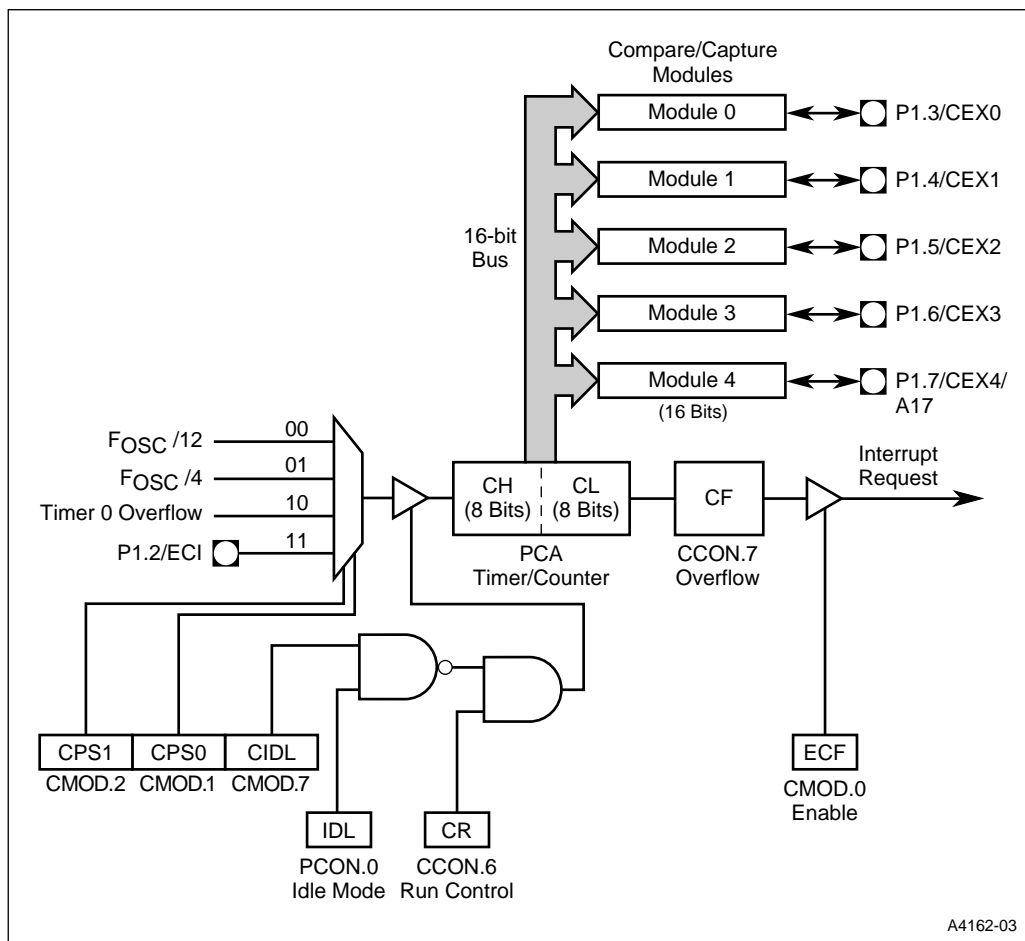
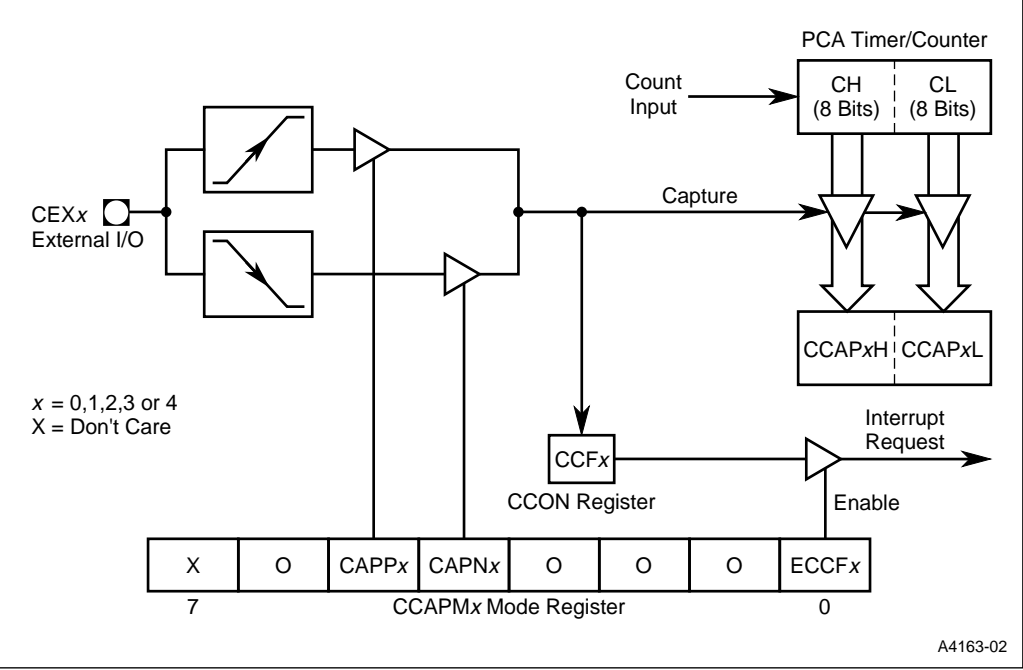

Figure 11-1. Programmable Counter Array
Figure 11-2. PCA 16-bit Capture Mode
The programmable counter array (PCA) consists of a 16-bit timer/counter and five 16-bit compare/capture modules. The timer/counter serves as a common time base and event counter for the compare/capture modules, distributing the current count to the modules by means of a 16-bit bus. A special function register (SFR) pair, CH/CL, maintains the count in the timer/counter, while five SFR pairs, CCAPxH/CCAPxL, store values for the modules (see Figure 11-1). Additional SFRs provide control and mode select functions as follows:
The PCA timer/counter and the five compare/capture modules share a single interrupt vector. The EC bit in the IE special function register is a global interrupt enable for the PCA. Capture events, compare events in some modes, and PCA timer/counter overflow set flags in the CCON register. Setting the overflow flag (CF) generates a PCA interrupt request if the PCA timer/counter interrupt enable bit (ECF) in the CMOD register is set (Figure 11-1). Setting a compare/capture flag (CCF_x) generates a PCA interrupt request if the ECCF_x interrupt enable bit in the corresponding CCAPM_x register is set (Figures 11-2 and 11-3). For a description of the 82930A interrupt system see Chapter 6, “Interrupts.”
Figure 11-1 depicts the basic logic of the timer/counter portion of the PCA. The CH/CL special function register pair operates as a 16-bit timer/counter. The selected input increments the CL (low byte) register. When CL overflows, the CH (high byte) register increments after two oscillator periods; when CH overflows it sets the PCA overflow flag (CF in the CCON register) generating a PCA interrupt request if the ECF bit in the CMOD register is set.
Setting the run control bit (CR in the CCON register) turns the PCA timer/counter on, if the output of the NAND gate (Figure 11-1) equals logic 1. The PCA timer/counter continues to operate during idle mode unless the CIDL bit of the CMOD register is set. The CPU can read the contents of the CH and CL registers at any time. However, writing to them is inhibited while they are counting i.e., when the CR bit is set.
The logical configuration of a compare/capture module depends on its mode of operation (Figures 11-2 through 11-5). Each module can be independently programmed for operation in any of the following modes:
The capture mode (Figure 11-2) provides the PCA with the ability to measure periods, pulse widths, duty cycles, and phase differences at up to five separate inputs. External I/O pins CEX0 through CEX4 are sampled for signal transitions (positive and/or negative as specified). When a compare/capture module programmed for the capture mode detects the specified transition, it captures the PCA timer/counter value. This records the time at which an external event is detected, with a resolution equal to the timer/counter clock period.